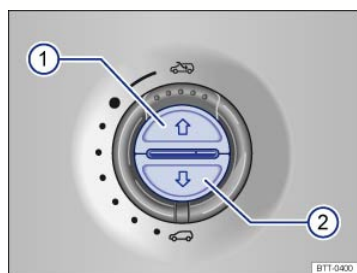

Fig. 31 In the headliner: Buttons for power sunshade.
To open fully (one-touch feature):	Briefly press the → Fig. 31 ① button.
To stop the one-touch feature:	Briefly press the → Fig. 31 ① button or the ② button.
To set an intermediate position:	Keep the → Fig. 31 ① button or ② button pressed until the position has been reached.
To close fully (one-touch feature):	Briefly press the → Fig. 31 ② button.
- *Sunshade:* Within 5 seconds after the pinch protection was triggered, press the ⇒ *Fig. 31*  switch until the sunshade is fully closed.